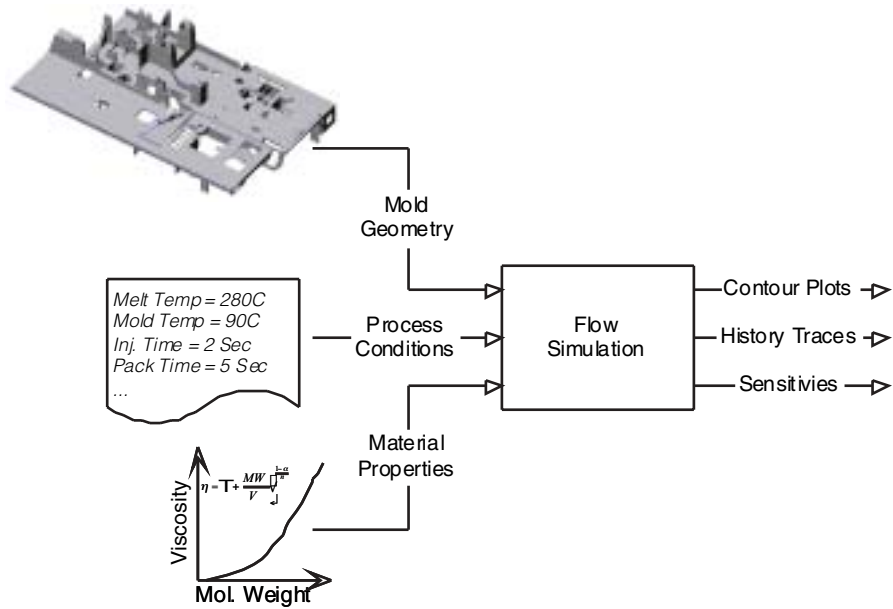

Figure 1. Inputs to flow simulation.
As shown in Figure 1, there are three separate inputs needed to run a flow analysis: (1) mold geometry, (2) material properties, and (3) processing conditions. On the inside, the flow analysis decomposes the complex three-dimensional geometry of the injection mold to a mesh of triangles or pyramids (tetrahedrons) that are easier to handle numerically. Because the injection molding process is dynamic, the flow simulation progresses in a series of many small time steps. At each time step, the simulation calculates the position of the polymer melt in the mold, the pressure distribution throughout the mold, and the temperature drop between the core and the skin everywhere in the part. The simulation can end once the mold has been filled, continue to simulate the packing of the mold, or predict the shrinkage and end-use of the molded part(s).